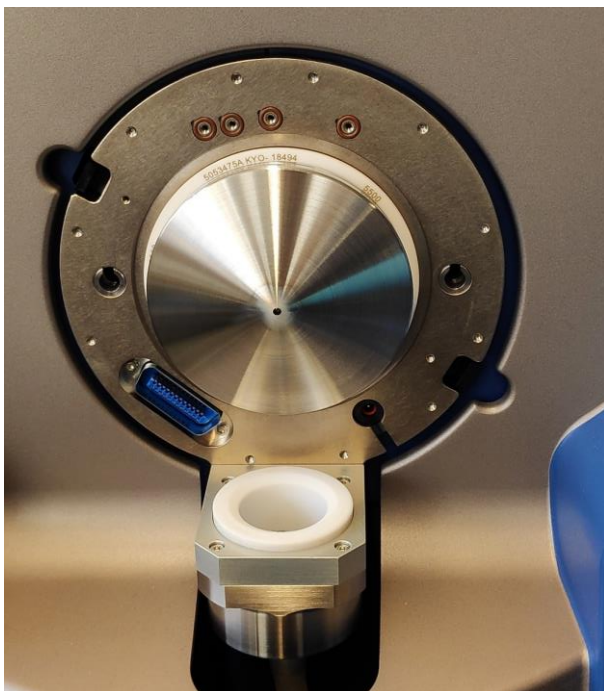

Figure 2: SCIEXMS inlet after removal of the ion source housing.
- Rotate the two levers on the ion source housing and take it off. After successful removal, the MS interface should look as shown in Figure 2.